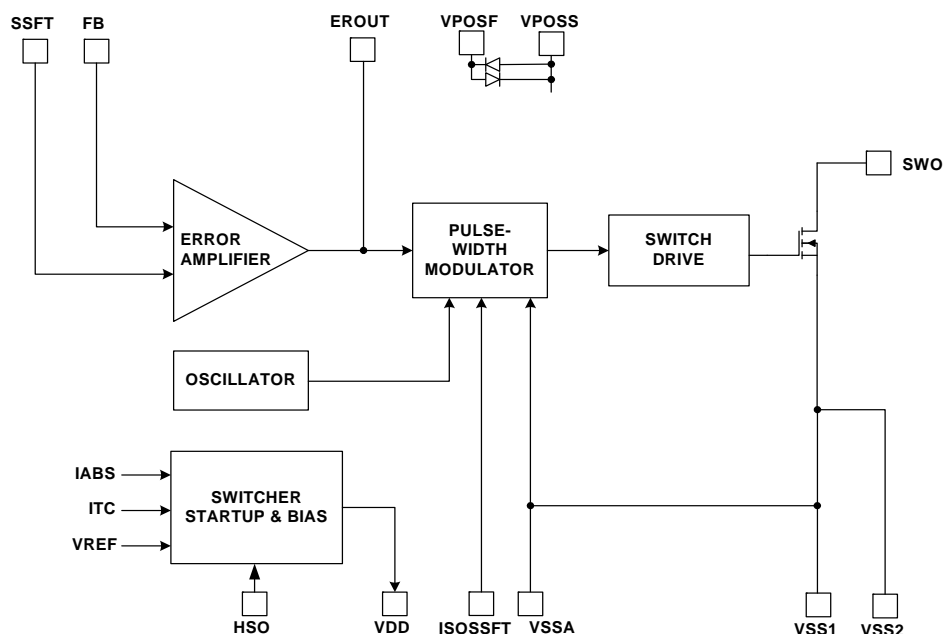

Figure 4. Switcher Block Diagram
- Updated Figure 4 and Table 12.